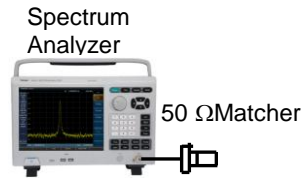

Fig 11-8 Displayed average noise level testing setup
- 1) Connect the 50Ω matcher to the RF input port of the spectrum analyzer as shown in Fig 11-8.